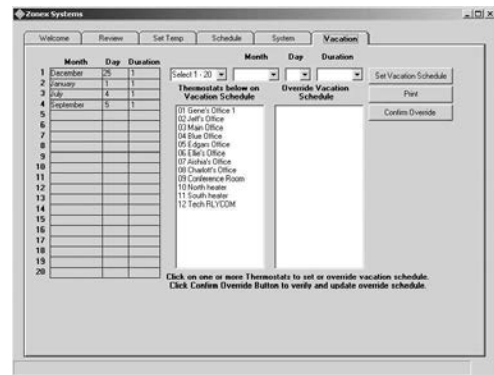

Fig. 26
1. Click on the **VACATION** Tab at the top of the screen, and verify all thermostat and **RLYCOM** addresses are listed under the column, **Thermostats below on Vacation Schedule** (see Fig. 26).